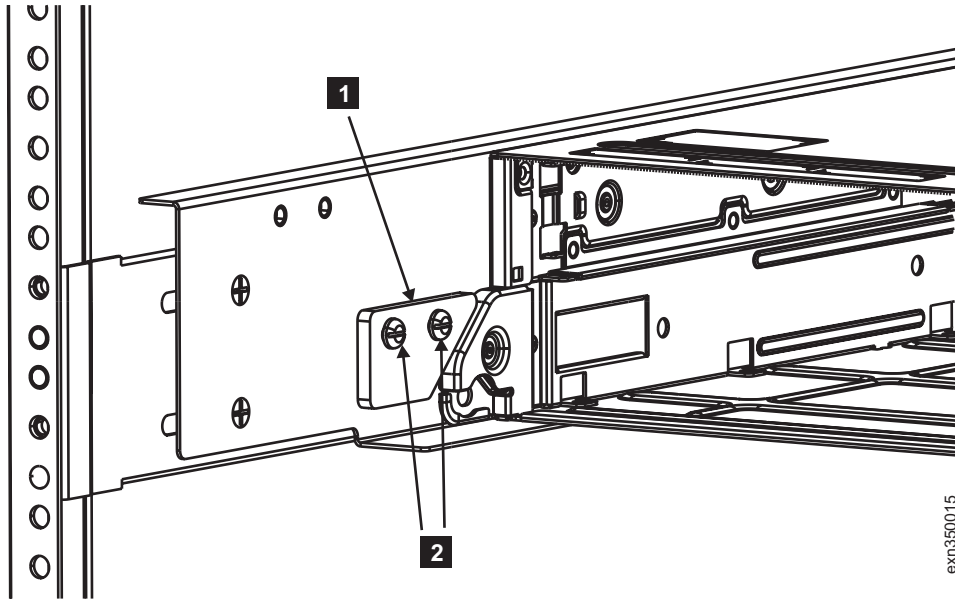

Figure 6. Attaching the rear tie-down plate
6. From the back of the rack, attach a rear tie-down plate **1** to the left and right rails using four M5 pan head screws (two for each rail) **2**, as shown in Figure 6.